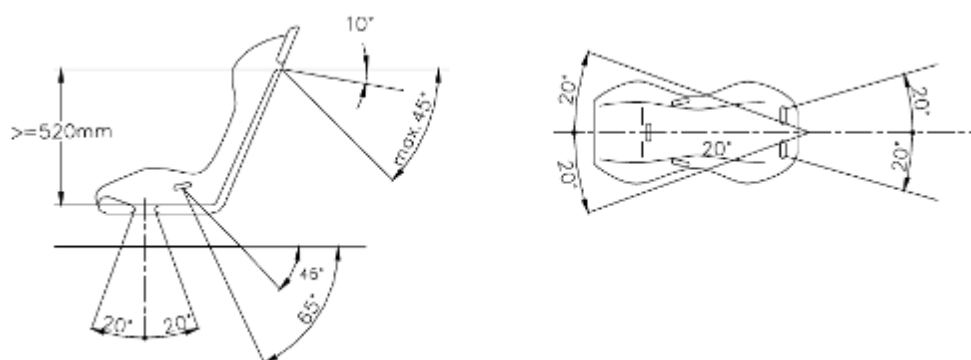

Figure 11
- 11.3.** Shoulder straps shall be directed downwards and backwards and shall be attached with an angle of no more than 10°. (Figure 11).